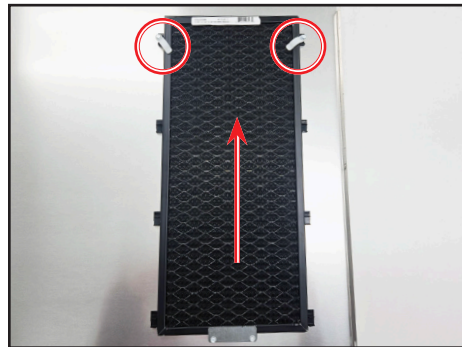

Fig. 5. Turn the air filter clips and then remove the filter from the bracket.
5. Remove the air filters from the grill(s). See fig. 5.